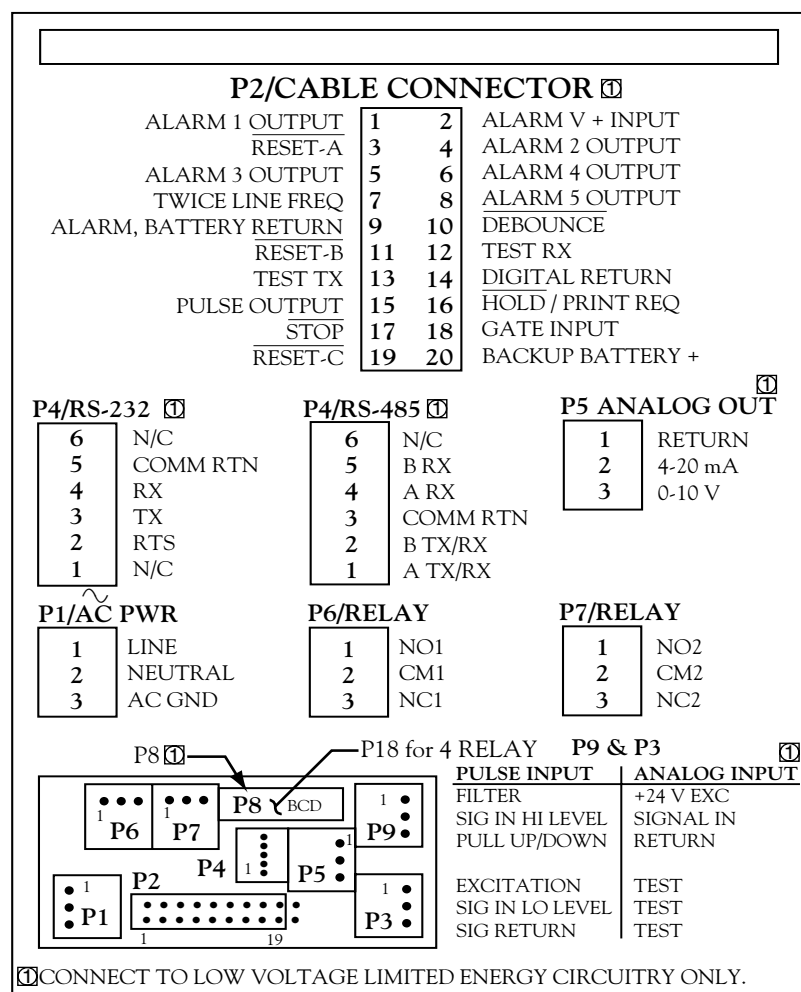

Figure 2-5. Connector Label
**NOTE:** When the sleeve is removed from the case in Step 5 above, the Connector Label on the case will be exposed. See Figure 2-5. Use this label for reference when wiring or connecting plugs.